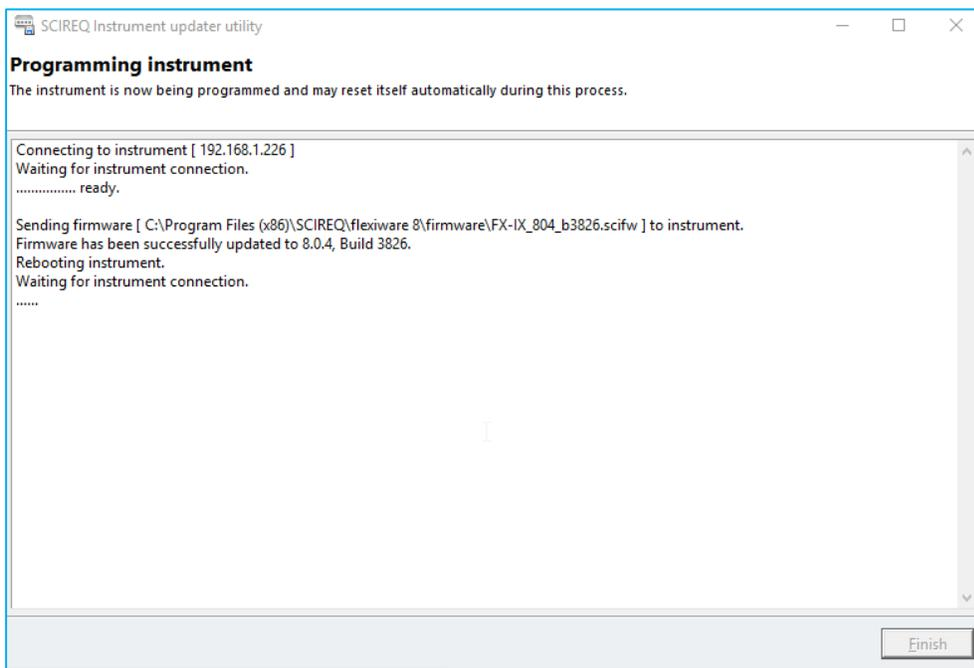

Figure 3-4. Active Update Window
- » Within 5 s of the inExpose booting up, click on the *Next* button to begin the update (Figure 3-4)